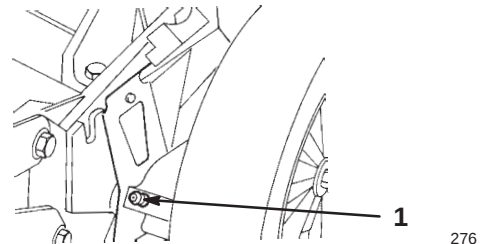

Figure 22
5. Wipe the grease fittings with a clean rag (Fig. 22).